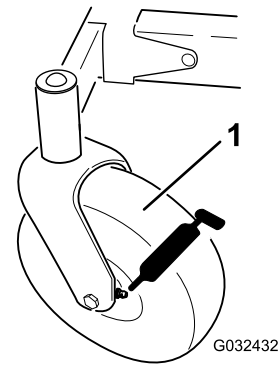
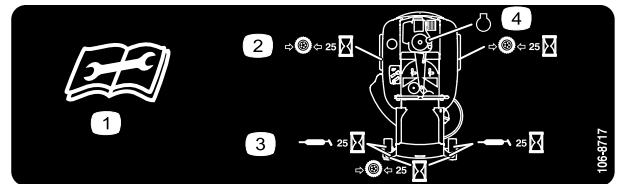

Figure 34
Figure 35
3. Clean the grease fittings (Figure 34 and Figure 35) with a rag.
4. Connect a grease gun to each fitting (Figure 34 and Figure 35).